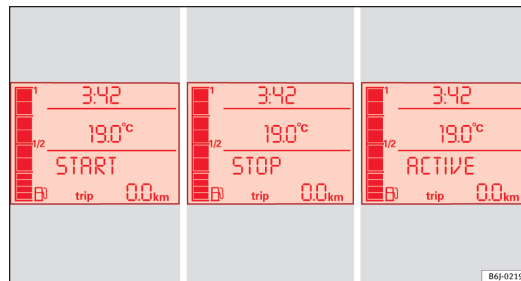

Fig. 101 Display on the instrument panel during Start-Stop function operation.
- The instrument panel display shows information about the status of the Start-Stop function ⇒ Fig. 101. ▶